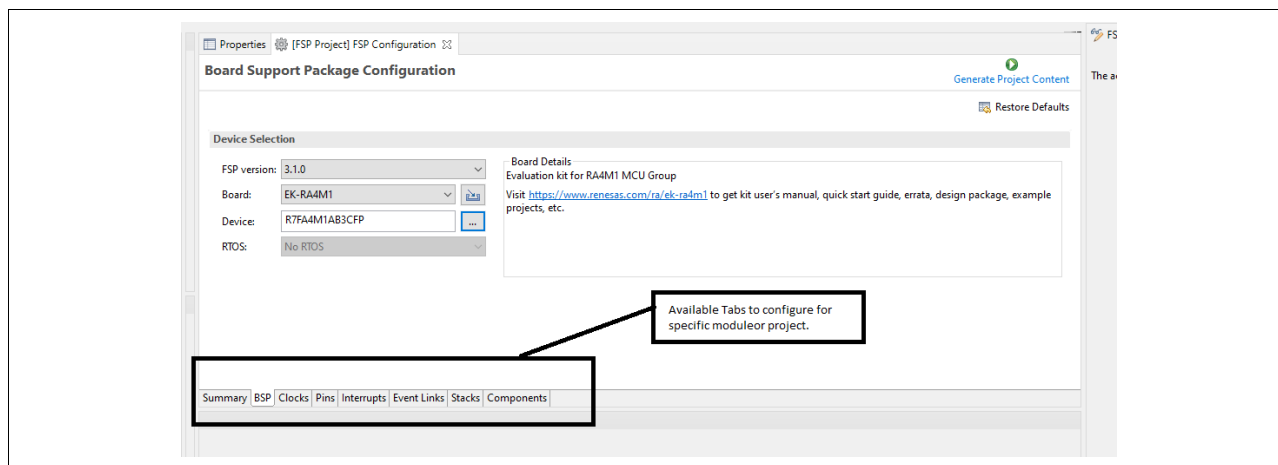

Figure 17. Board Support Package Configuration
3. After RASC opens, a screen appears as in Figure 17 with multiple tabs and options: